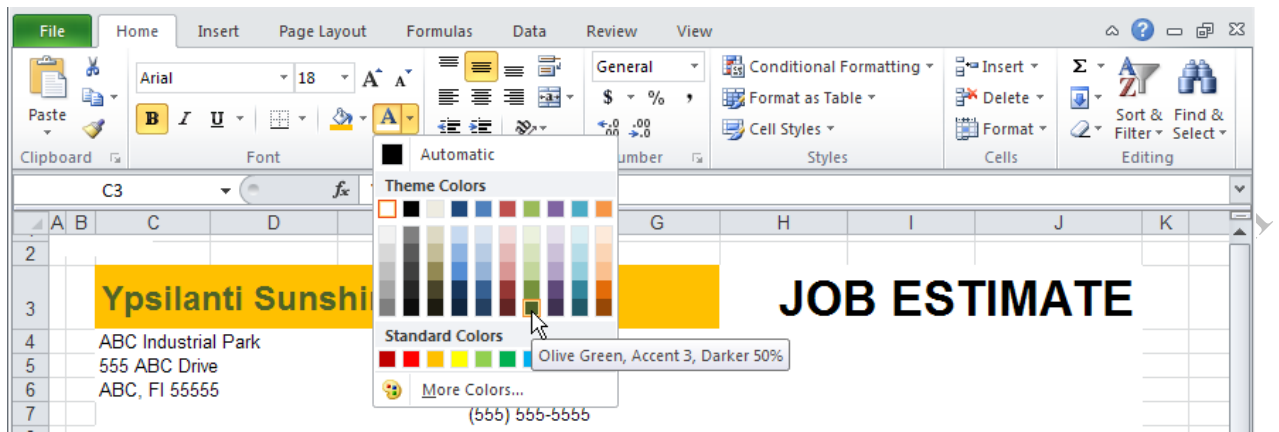

Figure 8.45. Font color changed.
8. Click cell C3 and replace the company name by typing **Ypsilanti Sunshine**. Select cells C3:G3 and on the Home tab in the Font group, click the Fill Color button arrow. Under Standard Colors, click the third color—**Orange**. Click the Font Color button arrow and in the column of green colors, click the last color—**Olive Green, Accent 3, Darker 50%** as shown in Figure 8.45.